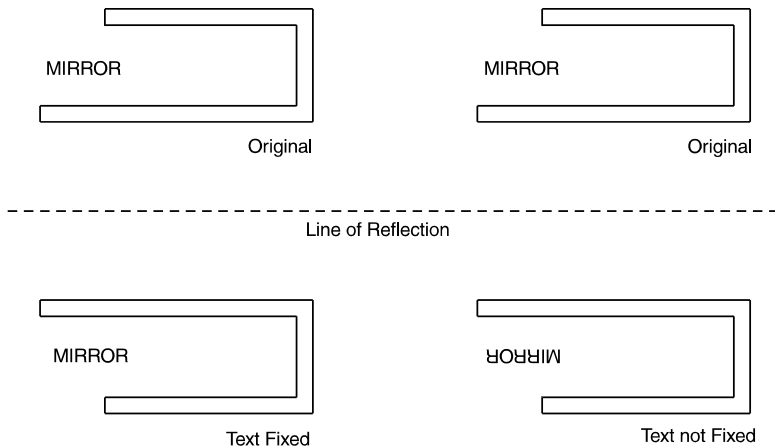

Figure 10.6: Mirroring text with Fix Text toggled on (left) and toggled off (right)
6. Toggle Fix Text on to mirror the position of text but not its orientation. When Fix Text is toggled off, text is mirrored and rotated 180° (see Figure 10.6).